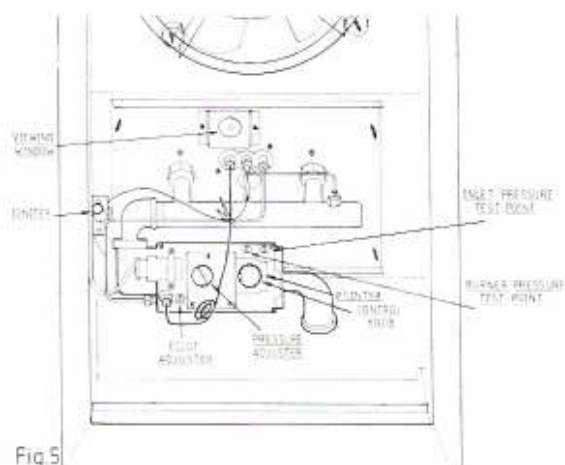

Fig 5
10.1 Initial Lighting EPF20 (see Fig. 5)